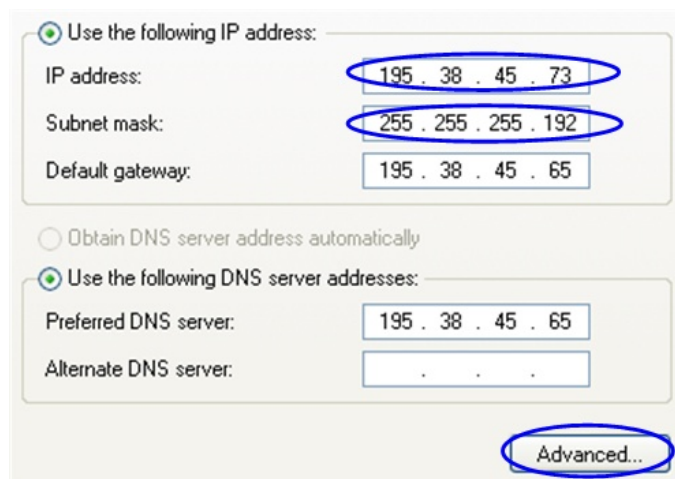
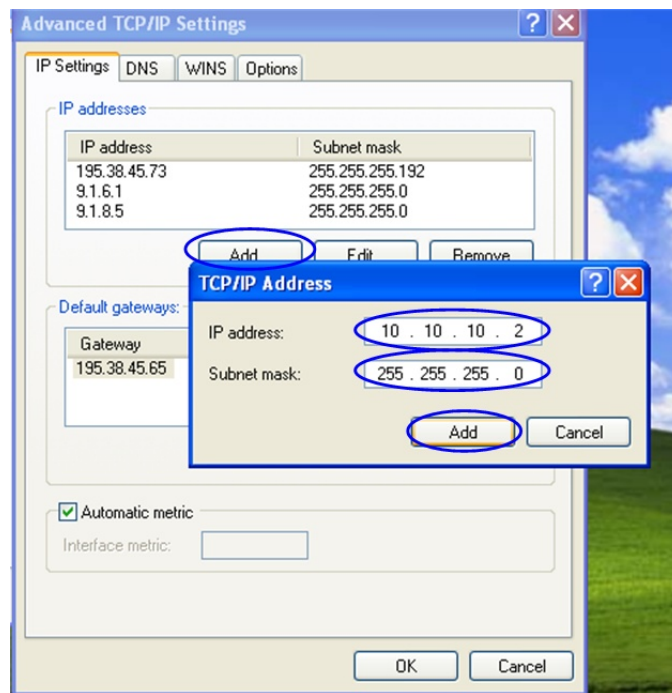

Figure 14. Change IP-address
Figure 15. Create alias
5. If you want to connect to the unit using PC/Laptop you can just change an IP-address on the Ethernet adaptor to some address from 10.10.10.0/24 network (e.g. change "IP-address" field to "10.10.10.2" and "Subnet mask" to "255.255.255.0"). After that click OK and move to step 7. See Figure 14
6. If you are in a LAN and you do not want to change your primary IP-address so you could keep LAN connectivity, you can assign an alias. In order to do that, press "Advanced..." button (Figure 14). In "Advanced TCP/IP Settings" click "Add" and put alias IP-address and mask (e.g. "10.10.10.2" and "255.255.255.0" correspondingly). See Figure 15. Click OK in all windows opened in the described procedure.